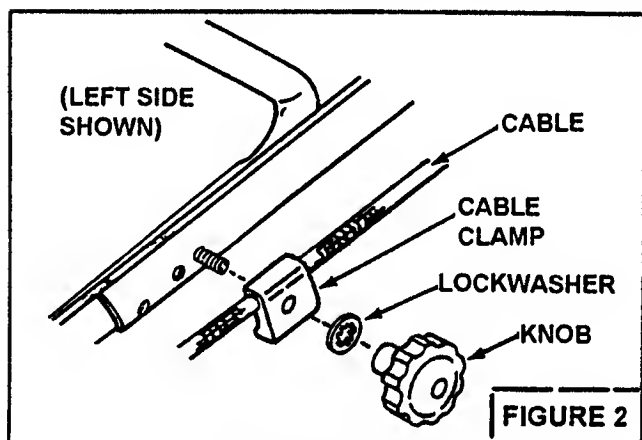

FIGURE 2
STEP 2: The blade control cable is located on the right side on some models and on the left side on others. Remove the top knob on appropriate side and install the cable clamp as shown in Figure 2.